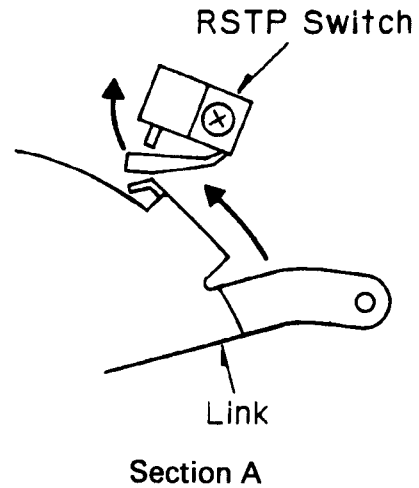

Fig.36
2. The highest stage is not detected by photo-transistor, but is rather detected when the RSTP switch is tripped. The magazine eject position is detected by the photo-transistor detecting the position of hole in the link when the steer moves.(Fig. 36)